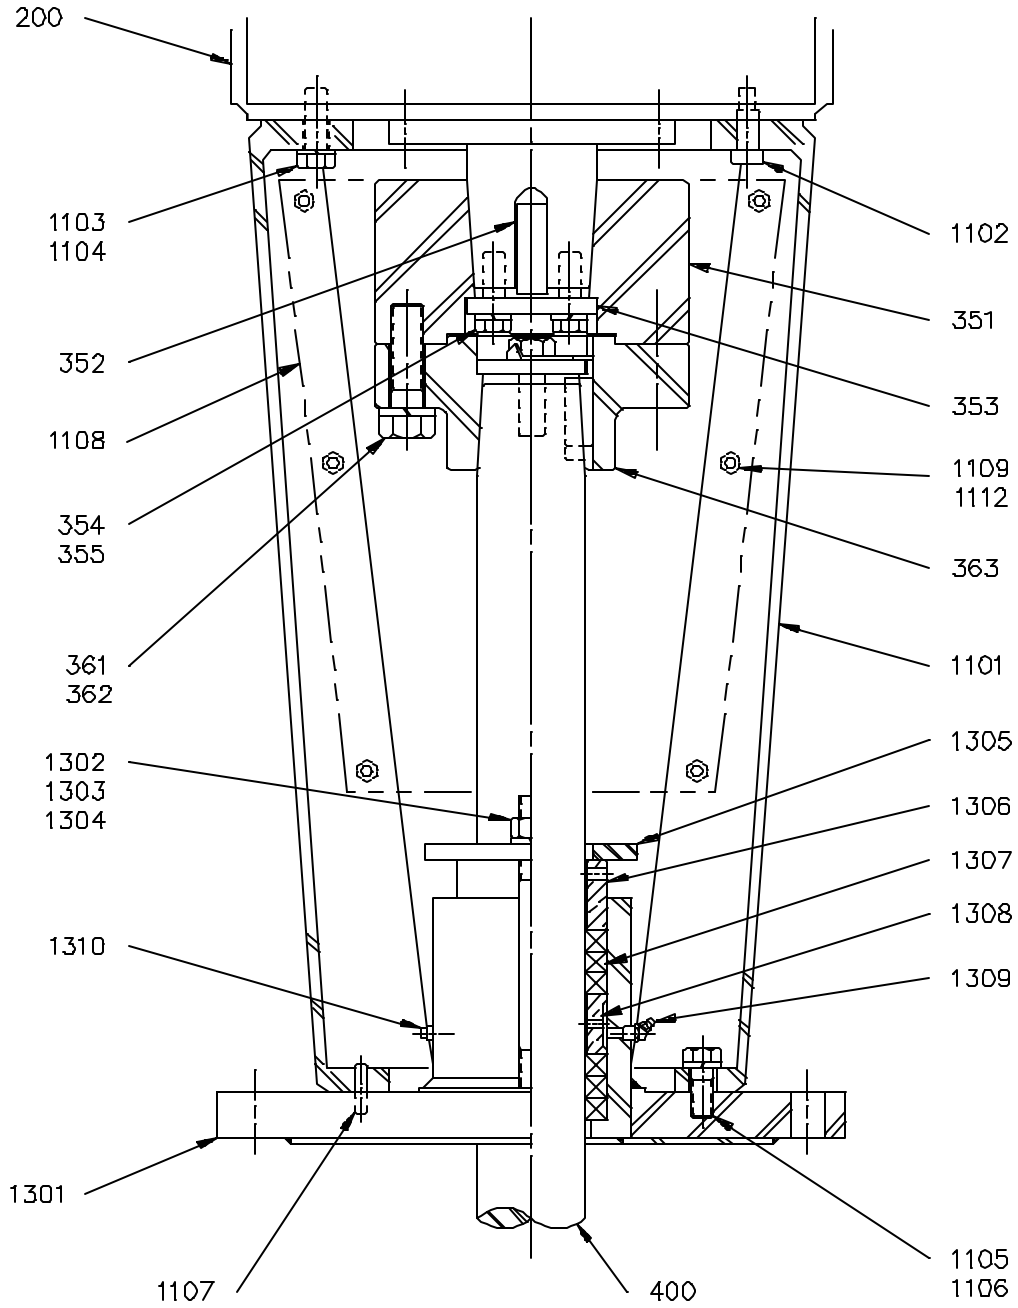

Figure 5: Model HTA
4. HTA Units (*Figure 5, page 18*)